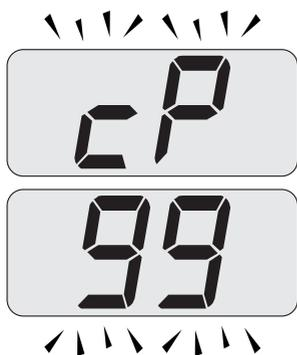

Fig. 9.14
- Press key 13 to vary the output in chimney sweep mode: when the LCD display displays the letters **CP** that alternate with the heating water temperature value (e.g. **99**), the "chimney sweep function" is at maximum (eventually range rated) output in heating mode (Fig. 9.14);